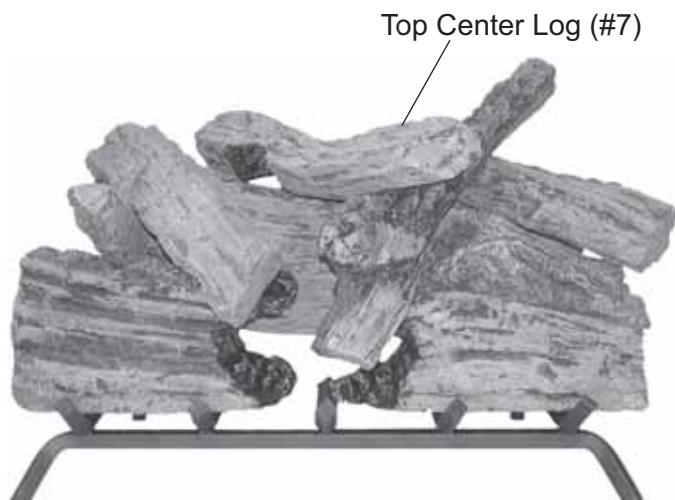

Figure 110 - Installing Top Center Log (#7)
9. Lay Top Center Log #7 across log #3 with front end resting on Log #5. *See Figure 110.*